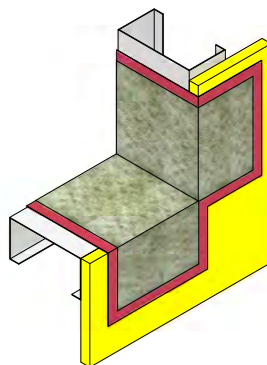

Figure 22
2. Cut WS FLASH to desired size. Remove release film immediately before application. Using a roller firmly press the WS FLASH into the corner, onto the surface, keeping the membrane smooth. (See Figure 22)